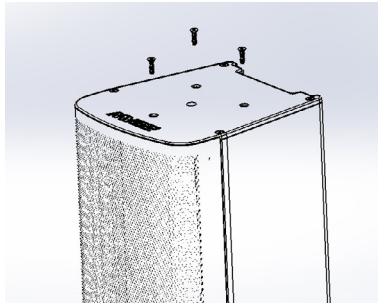

Figure 1 - Remove screws
1. Attach Locking Plate (A) to the top of the first AC6 (If using with subwoofer mount plate, follow instructions in step 2 to attach slide plate to bottom of first AC6)
- Remove 3x M5x12mm screws from top of AC6 (Figure 1).